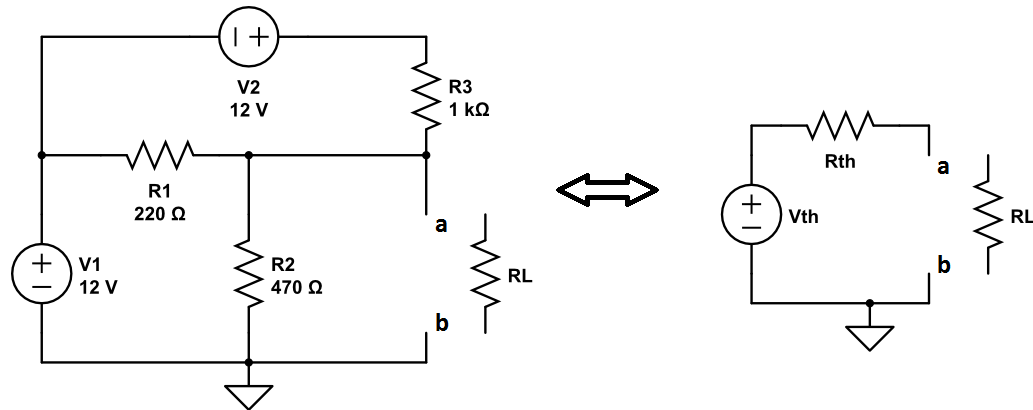

Fig 1. (Left) The circuit we will model using Thevenin's theorem. (Right) the Thevenin equivalent circuit. What value of R_L will absorb the most power?
Figure 1 shows the circuit we are going to construct and analyze in today's lab. The circuit has two 12V sources and three resistors (220, 470 and 1000 Ω).
1. Select the components necessary to build the circuit in Figure 1. Record the values of V1, V2 and R1 – R3 using your multimeter in Table 1.